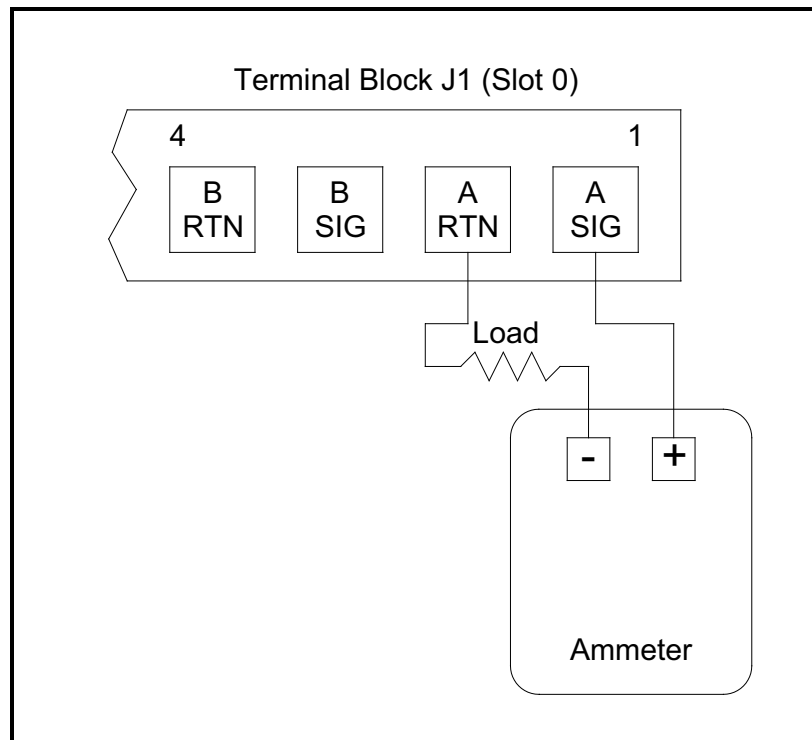

Figure 12: Ammeter Connection (Output A)
Prepare for calibration by inserting an ammeter in series with the load on analog output A at terminal block J1, as shown in Figure 12.
- IMPORTANT:** *The procedure for calibrating Output B is identical to that for calibrating Output A. However, when calibrating Output B, be sure to reconnect the ammeter on terminal block J1. See Figure 12 on page 20 for the correct pin numbers.*
Prepare for calibration by inserting an ammeter in series with the load on Output A of the option card. See Figure 12 on page 20 to identify the OUT(+) and RTN(-) pins for Output A on terminal block J2.